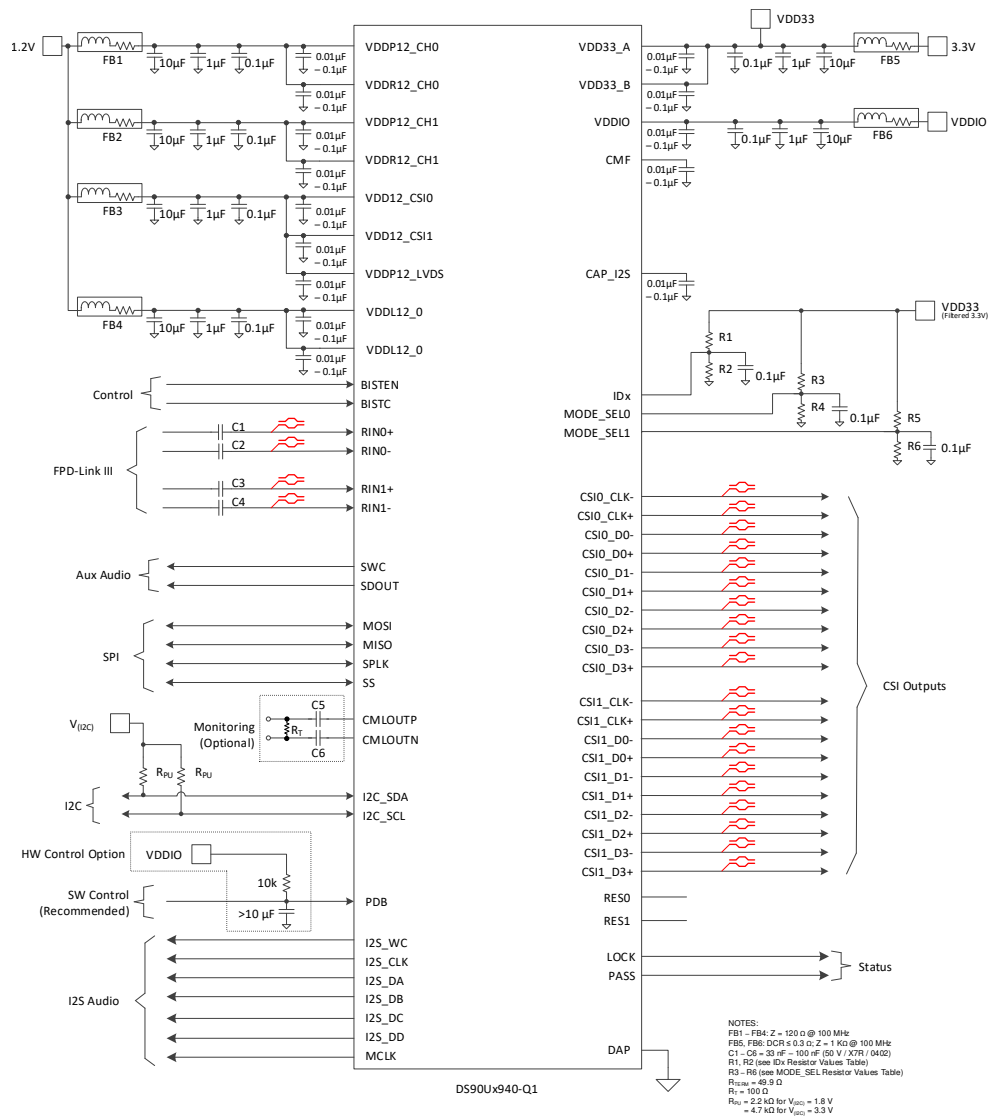

Figure 37. Typical Connection Diagram (STP)
Bypass capacitors must be placed near the power supply pins. At a minimum, use four (4) 10- $\mu$ F capacitors for local device bypassing. Ferrite beads are placed on the two sets of supply pins (VDD33 and VDDIO) for effective noise suppression. The interface to the graphics source is LVDS. The VDDIO pins may be connected to 3.3 V or 1.8 V. A capacitor and resistor are placed on the PDB pin to delay the enabling of the device until power is stable. See Figure 37 for a typical STP connection diagram and Figure 38 for a typical coax connection diagram.